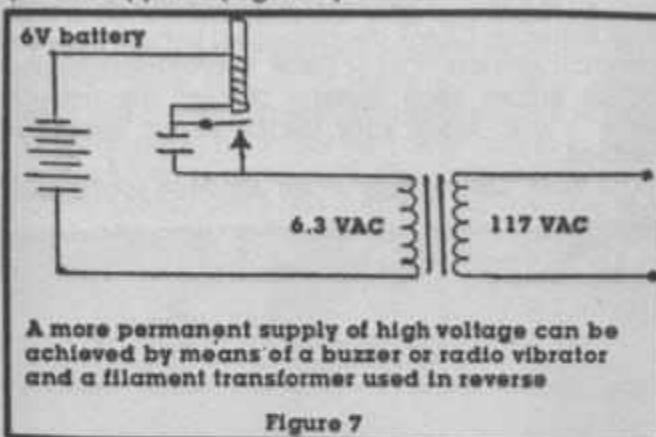

Figure 7
The interrupter in the primary circuit can be a push button for short HV pulses as pictured, or a buzzer as outlined below. When rectified and smoothed-out with electrolytics and a coil, a source of high voltage can be built. (Figure 7)
**Figure 7:** Check the schematic for possible no sound symptoms. Measure the voltage and resistance on each pin of the IC for a defective component or IC. Compare the IC voltage pins with the normal stereo channel.
Take critical voltage and resistance measurements. Try to locate a schematic, if possible. Sometimes a real small diagram is found with the operating instructions (Figure 7). Remember, the supply voltage will be very low with 2 or 3 AA batteries. A leaky IC or component will impose an excessive drain on the batteries. Insert a piece of cardboard with tin foil on each side and take a current measurement. These small players will not pull over 20 mills even with an AM-FM radio. After installing new batteries, if the voltage goes down to around 1 volt, suspect a leaky IC.